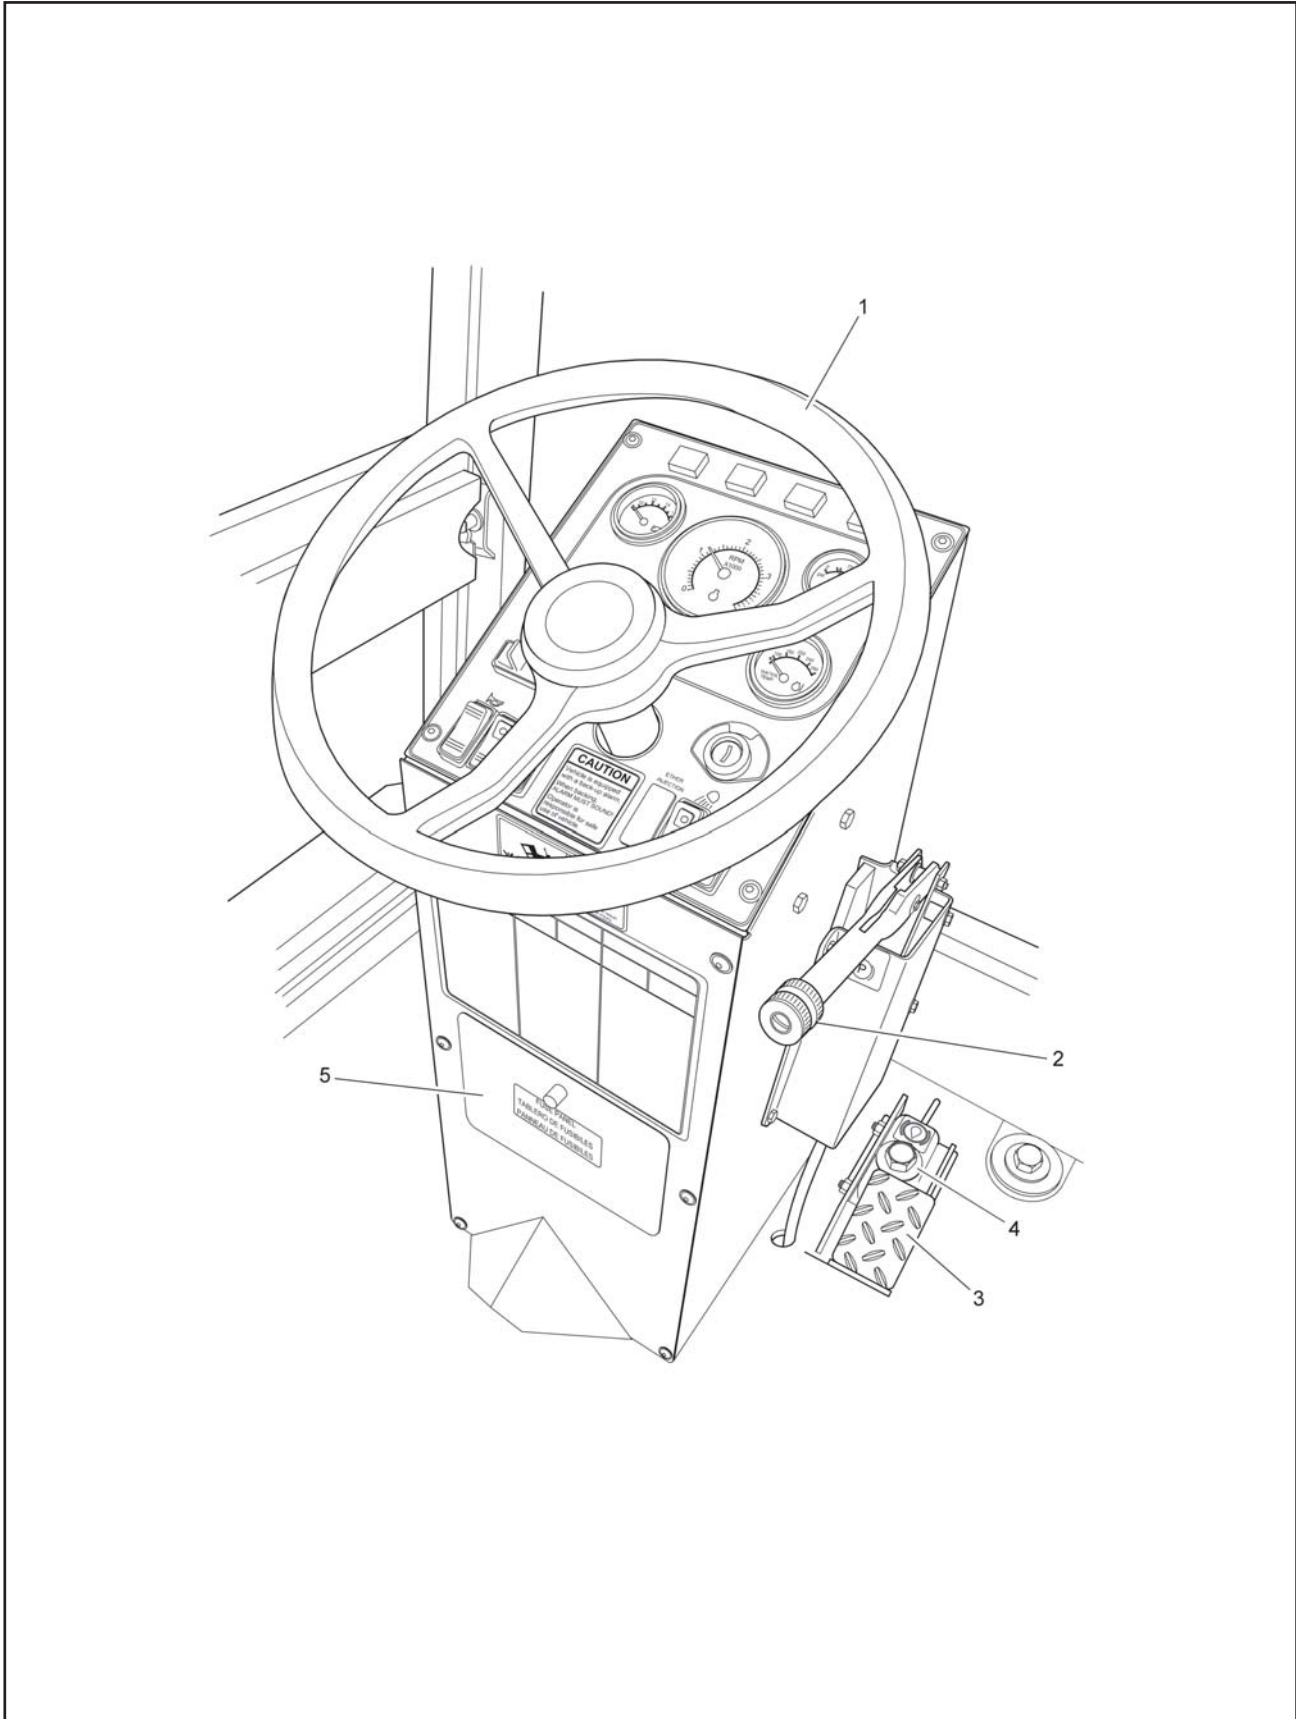
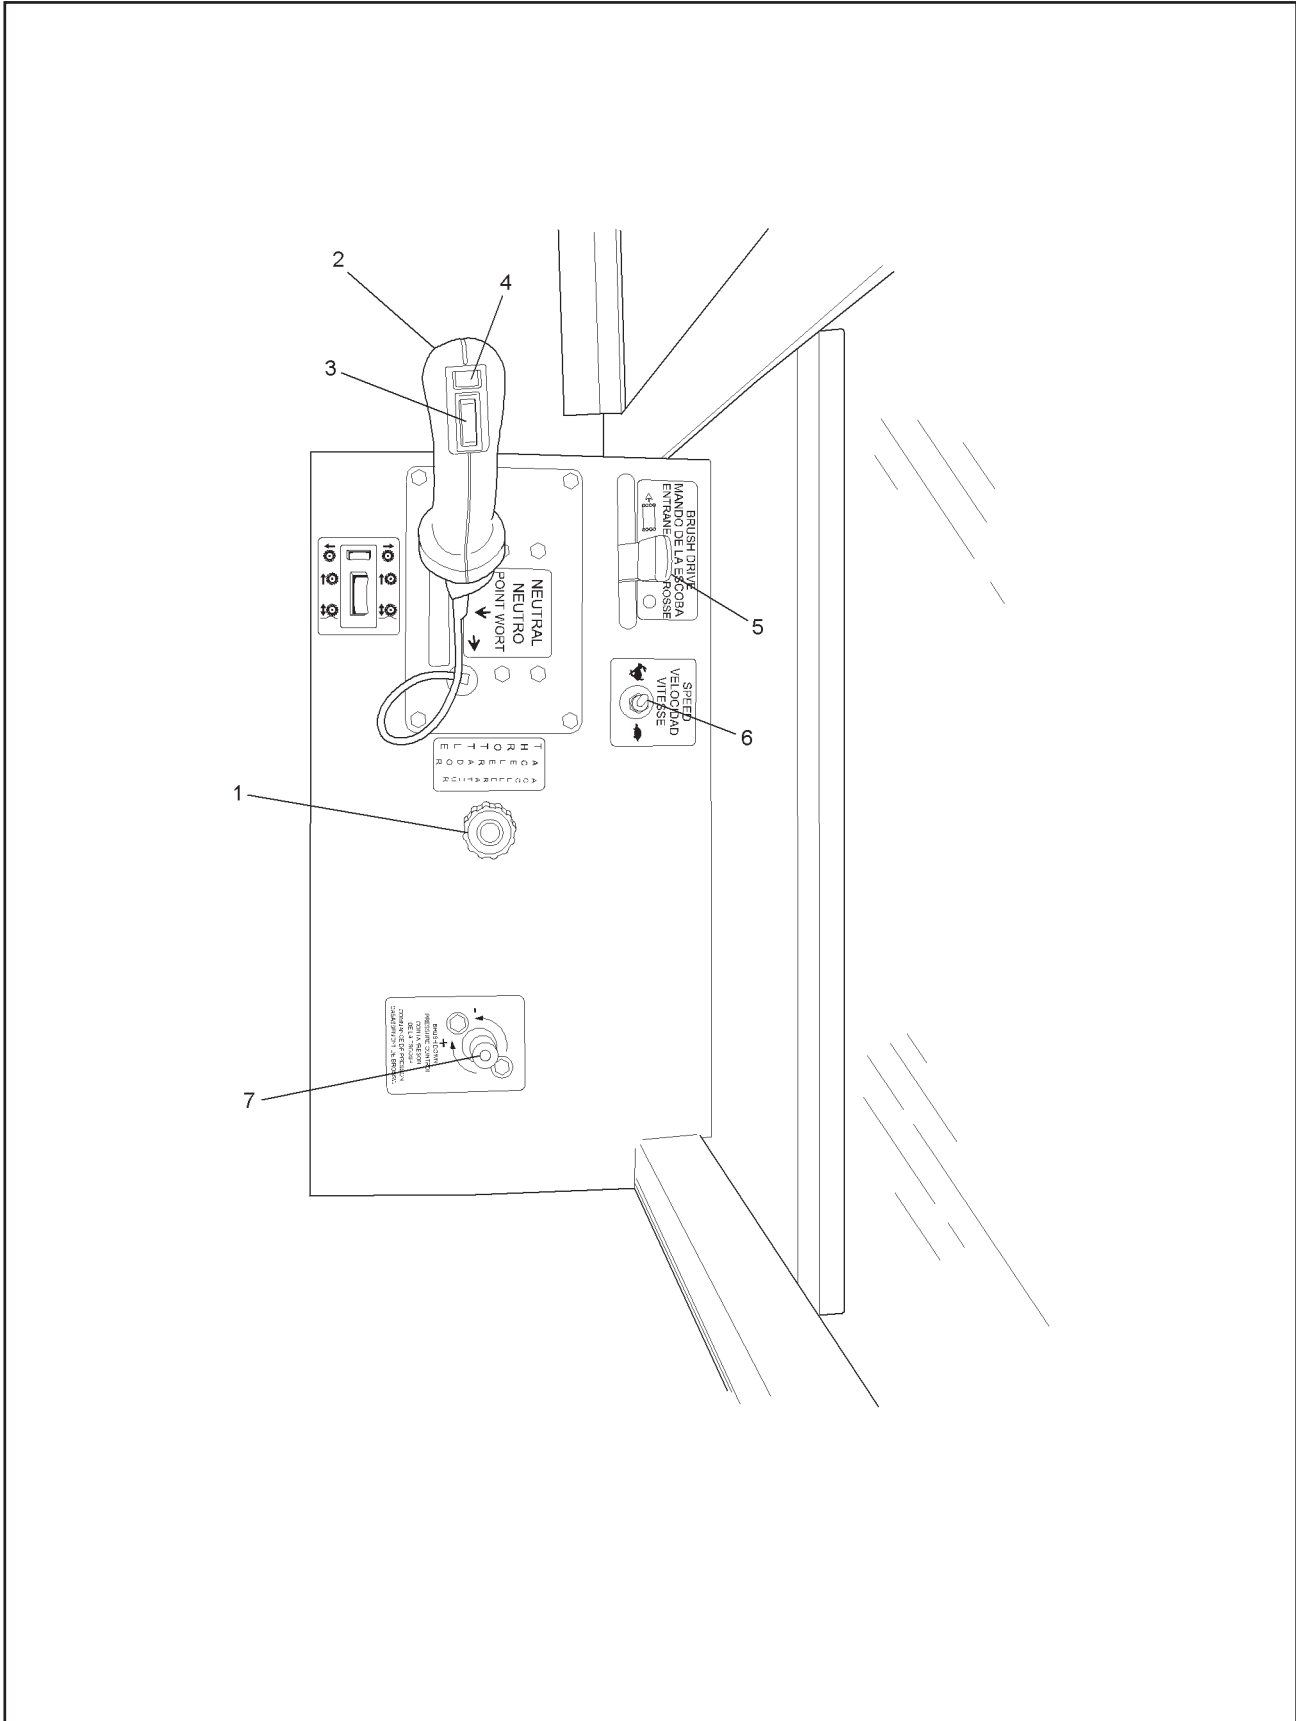

FIGURE 3-2. STEERING CONSOLE
FIGURE 3-3. BRUSH CONTROL CONSOLE
1. Place the Transmission Selector Lever (Figure 3-3, item 2) in the neutral position. A Neutral Start Switch has been installed to prevent operation of the engine starter when the transmission is not in neutral.
2. Apply the park/emergency brake (Figure 3-2, item 2).
WARNING:  Be sure the park brake is applied and the Transmission Selector Lever (Figure 3-3, item 2) is in the neutral position before starting the machine. Sudden movement of the machine can throw an operator from the machine.
3. Set the Engine Throttle (Figure 3-3, item 1) to one-half speed by holding the center button depressed and pulling on the knob.
5. As soon as the engine starts, move the Engine Throttle (Figure 3-3, item 1) to idle by holding the button depressed and pushing the knob fully down.
The Engine Throttle (Figure 3-3, item 1) is a knob with a center push-button. It is located on the control panel to the right of the driver's seat.
The hydrostatic Transmission Selector Lever (Figure 3-3, item 2) is on the control panel on the operator's right side. With some experience, an operator should be able to operate this control along with the throttle to make the forward or reverse movement smooth and fluid-like.
The hydrostatic transmission system is equipped with a HIGH/LOW Speed Selector Switch (Figure 3-3, item 6) located on the control panel on the operator's right side. Use HIGH speed for road travel and LOW speed for sweeping operations.
The foot-operated Service Brake Pedal (Figure 3-2, item 3) is on the right side of the steering wheel console. The service brake may be overpowered by the hydrostatic drive. Always return the Transmission Selector Lever (Figure 3-3, item 2) to neutral as the service brakes are applied.
The Steering Wheel (Figure 3-2, item 1) is located in front of the operator's seat. Remember that steering takes priority over brush operations (rotation, lift and swing) when both are attempted at the same time.
The operator must become accustomed to using the hydrostatic transmission to assist in braking. This is best done by moving the Transmission Selector Lever (Figure 3-3, item 2) into the neutral position before applying the service brake.
WARNING:  **Before dismounting from the machine, place the Transmission Selector Lever (Figure 3-3, item 2) in neutral, turn off all accessories, set the park brake, shut off the engine, and remove the ignition key.**
The Brush Control Switch (Figure 3-3, item 3) is the forward/back switch on the joystick. It has three positions: